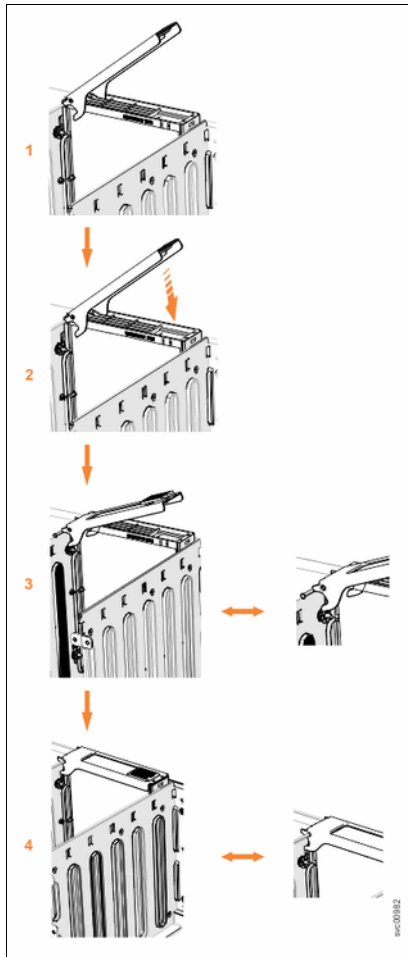

Figure 6-17 SAS flash drive installation in expansion enclosure
- b. Move the drive handle to the open (unlocked) position **1** in Figure 6-17 on page 180).
- c. Gently push the drive down until it stops and the bottom of the latch is aligned with the top of the partition. Ensure that the handle is not open more than 45 degrees from the drive carrier **2** in Figure 6-17 on page 180).
- d. Rotate the handle down to lock the drive assembly into the chassis **3** in Figure 6-17 on page 180).
- f. Ensure that the top toe of the latch is also fully engaged (4 in Figure 6-17).